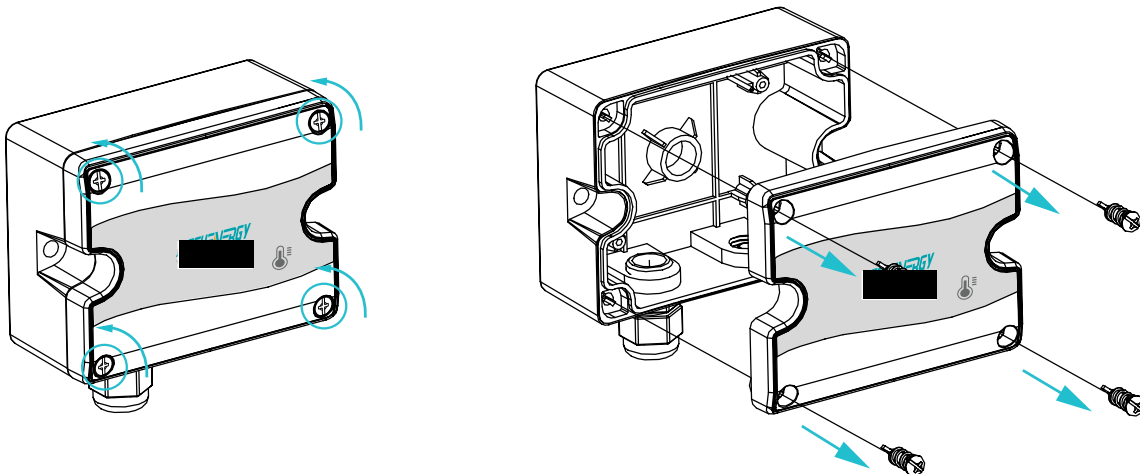

Figure 2 AcuTEMS OA Removing Front Cover
**NOTE:** Exercise caution to not over-rotate the screws, which could damage the enclosure. Refer to Figure 2 for details.